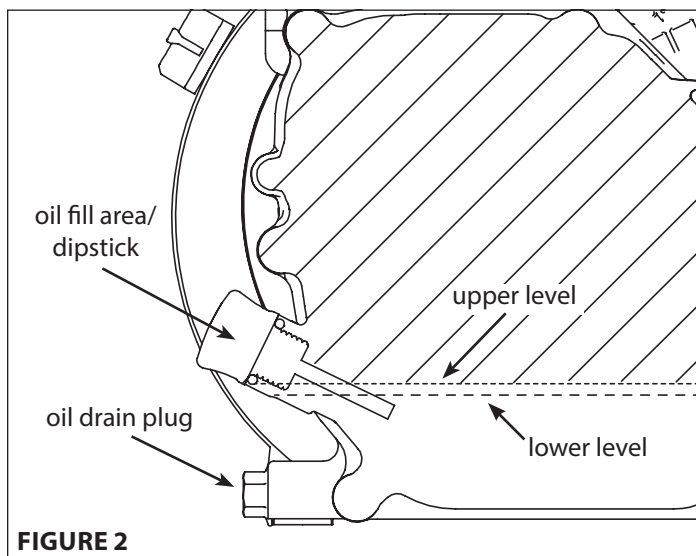

FIGURE 2
1. Clean around oil fill area and drain plug. **SEE FIGURE 2**
2. Unscrew dipstick and wipe clean with cloth. **SEE FIGURE 2**